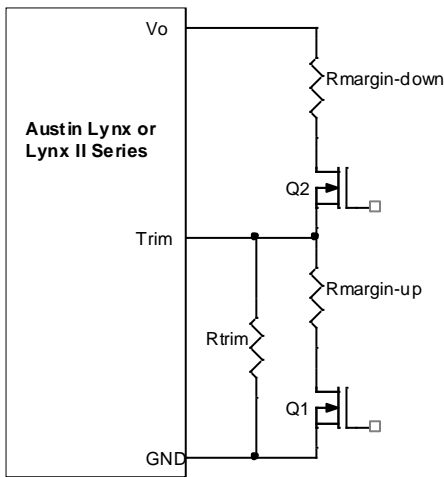

Figure 31. Circuit Configuration for margining Output voltage.
To provide over temperature protection in a fault condition, the unit relies upon the thermal protection feature of the controller IC. The unit will shutdown if the thermal reference point T_{ref2} , (see Figure 31) exceeds 150 $^{\circ}$ C (typical), but the thermal shutdown is not intended as a guarantee that the unit will survive temperatures beyond its rating. The module will automatically restarts after it cools down.
Output voltage margining can be implemented in the Austin MicroLynx™ modules by connecting a resistor, $R_{margin-up}$, from Trim pin to ground pin for margining-up the output voltage and by connecting a resistor, $R_{margin-down}$, from Trim pin to Output pin. Figure 31 shows the circuit configuration for output voltage margining. The POL Programming Tool, available at www.gecriticalpower.com under the Design Tools section, also calculates the values of $R_{margin-up}$ and $R_{margin-down}$ for a specific output voltage and % margin. Please consult your local GE technical representative for additional details.